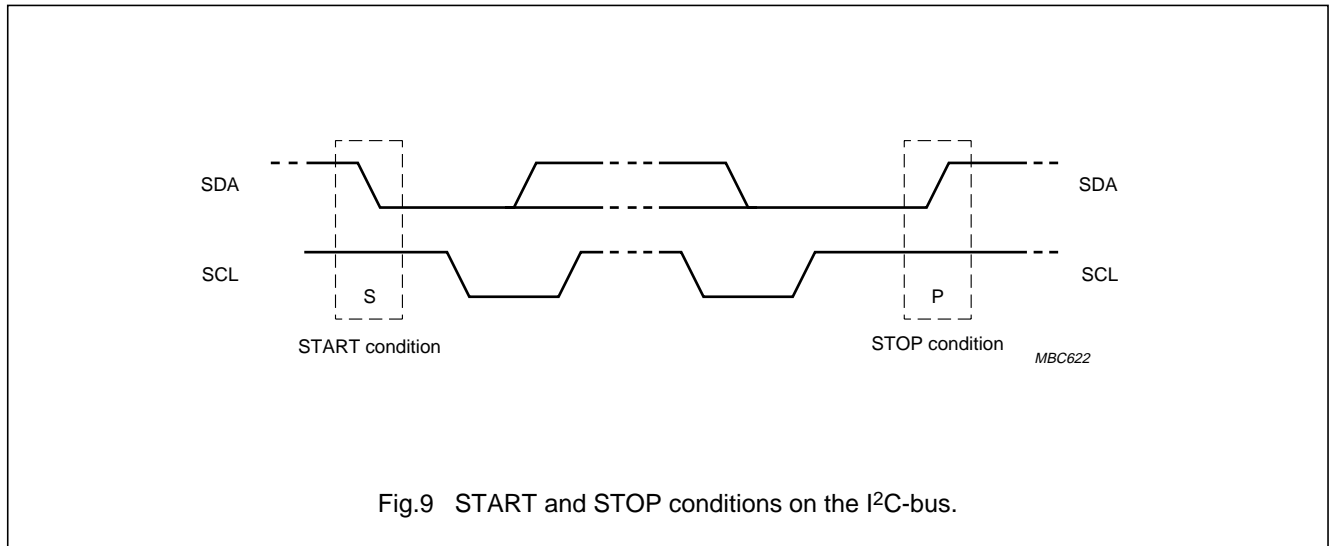

Fig.9 START and STOP conditions on the I²C-bus.
Both data and clock lines will remain HIGH when the bus is not busy. A HIGH-to-LOW transition of the data line, while the clock is HIGH, is defined as a start condition (S); see Fig.9. A LOW-to-HIGH transition of the data line while the clock is HIGH is defined as a stop condition (P).